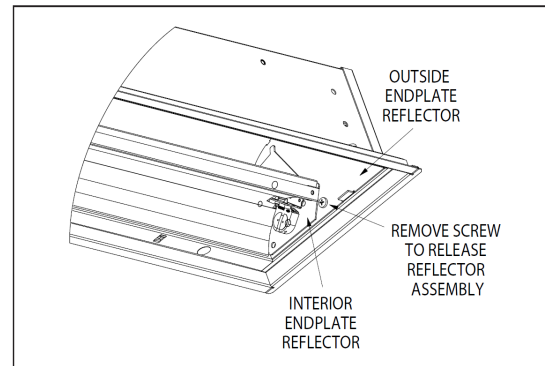
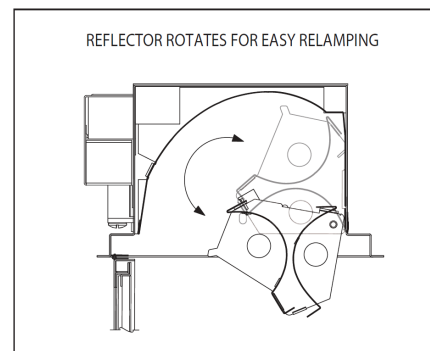

Figure 10
Figure 11
1. Loosen the screws that secure the lensed door to the housing. Alternate between the (3) screws until the door can be opened. Allow the door to swing open and hang perpendicular to the fixture aperture.
2. DuoCare™ Exam/Ambient has a rotatable reflector assembly to provide easy access for the two lamp compartments. The reflector assembly has larger outside reflector endplates and smaller interior reflector endplates. (See Figure 10) Grab hold of the smaller interior reflector endplates and gently pull down on them. The latch will release the reflector allowing it to rotate down. (See Figure 11)
2. Locate the two screws at the lower edge of the reflector endplates as shown in Figure 10. Remove both screws.